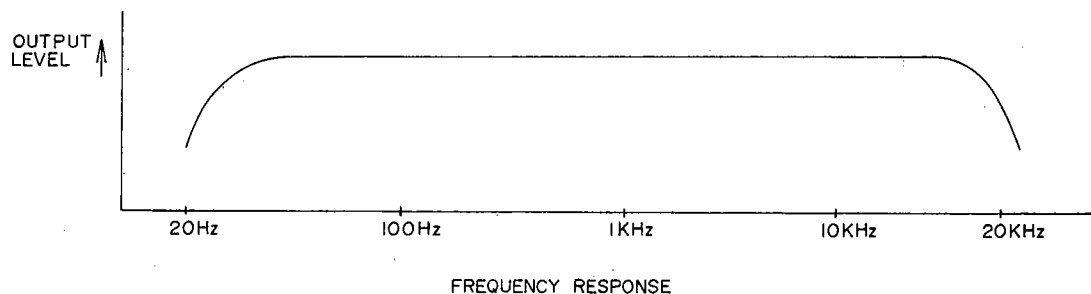

Fig. 3
- (f) At this point, continuously change oscillation frequency of audio oscillator and take V.T.V.M. reading of Line Output. Check frequency response curve as shown in Fig. 3.